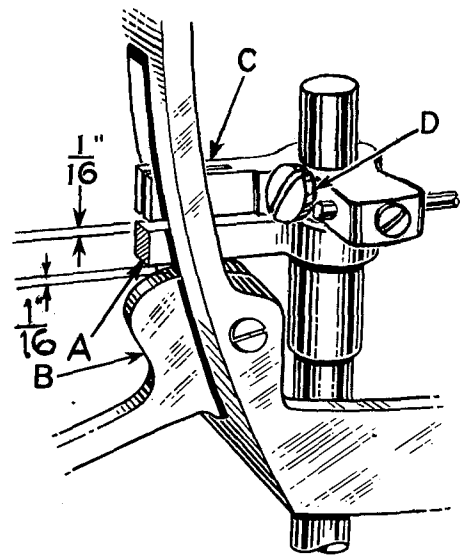

Fig. 8
The presser bar connection (A, Fig. 8) should be set so that it is  $\frac{1}{16}$  inch from the hand lifter (B) at all times.
When locating the presser bar guide (C, Fig. 8), the presser foot must rest directly against the throat plate with the feed dog in its lowest position.